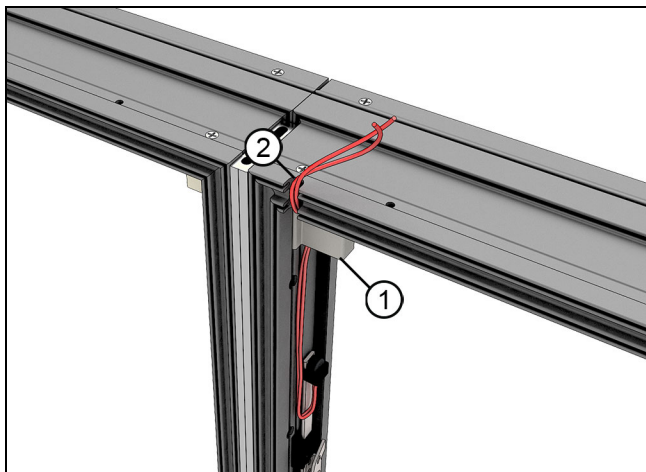

Figure 39 Vertical Standard Mull
- Fish wire through the factory provided notch located in the head jamb. See Figure 39.